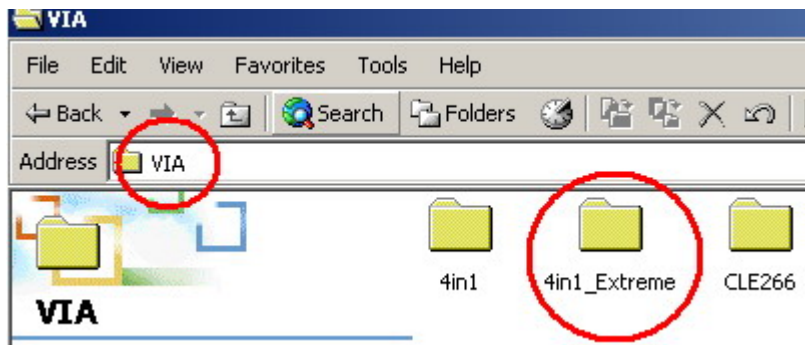

Figure 6-1: Access the 4in1_Extreme Folder
Step 2: Open the “VIA” folder. Open the “4in1 Extreme” subfolder. (See **Figure 6-1**)